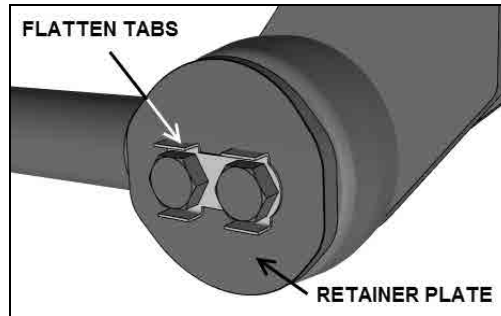

FIGURE 4
5. At each end of the radius rod, flatten the tab washers (figure 4) which secure the retaining bolts. Unscrew the bolts and discard the bolts, the tab washers and the retainer plates.